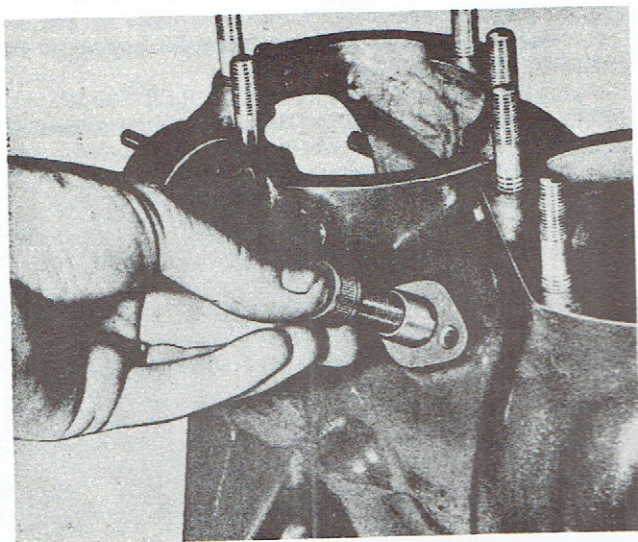

Figure 4-8. Bearing Cage Key Removal
- a. Unscrew the two 1/4-inch hex head cap screws and remove the cover over the key in the lower right hand side of the crankcase. (See figure 4-8.)